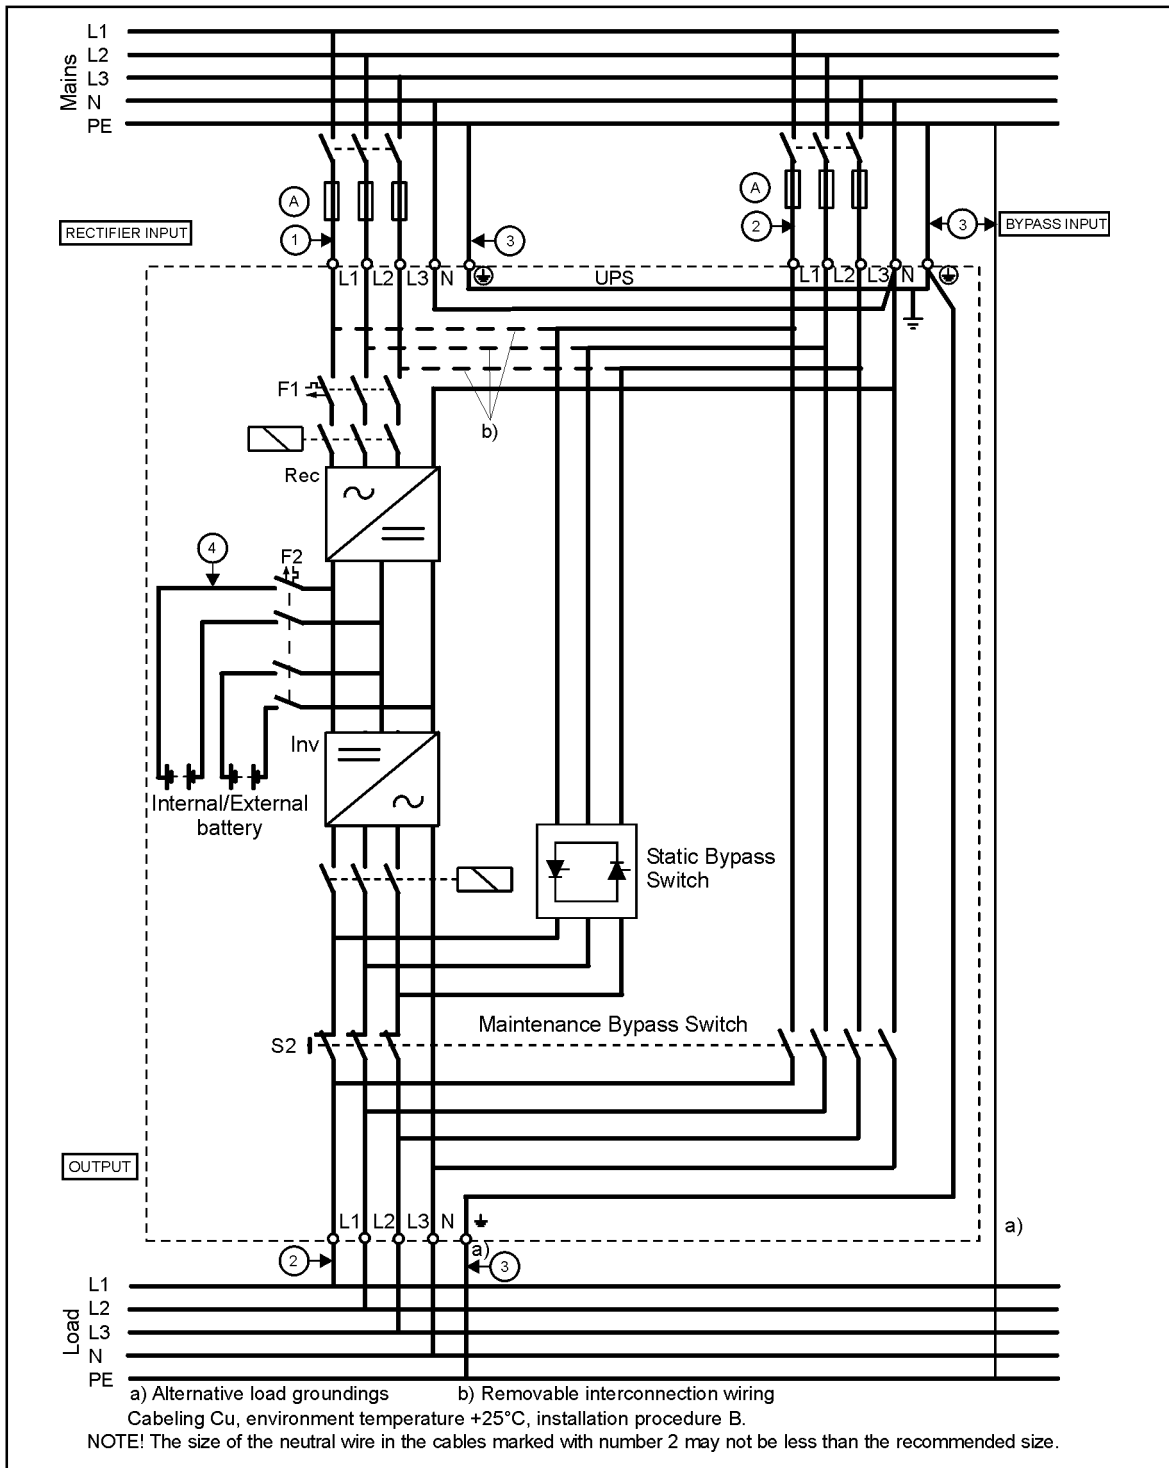

Fig. 5. Five-wire installation of UPS units from 7.5 to 15 kVA with two-cable input.
1. Check that electrical connections to the installation site have been properly executed. Also check fuse or circuit breaker ratings and cable dimensions against figure 5 or 6. The figure depends on if you use two cable or single-cable input.
5. The UPS should be connected in accordance with figure 5 or 6. The figure depends on if you use two-cable or single-cable input. Normal/NC-model.
Table 2. Fuse and cable dimensions for five wire installations of UPS units 7.5 to 15 kVA using two cable input. Note that the fuse letters and the cable numbers refer to the letters/numbers in figure 5.